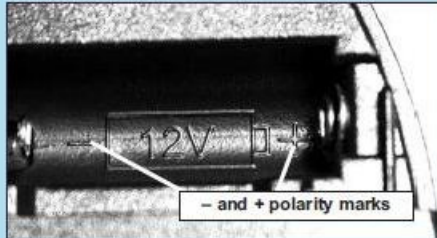

FIG. 8-2 Match battery polarity.
- Make sure new battery is facing proper direction (Match battery polarity with symbols inside battery housing) (Fig. 8-2).